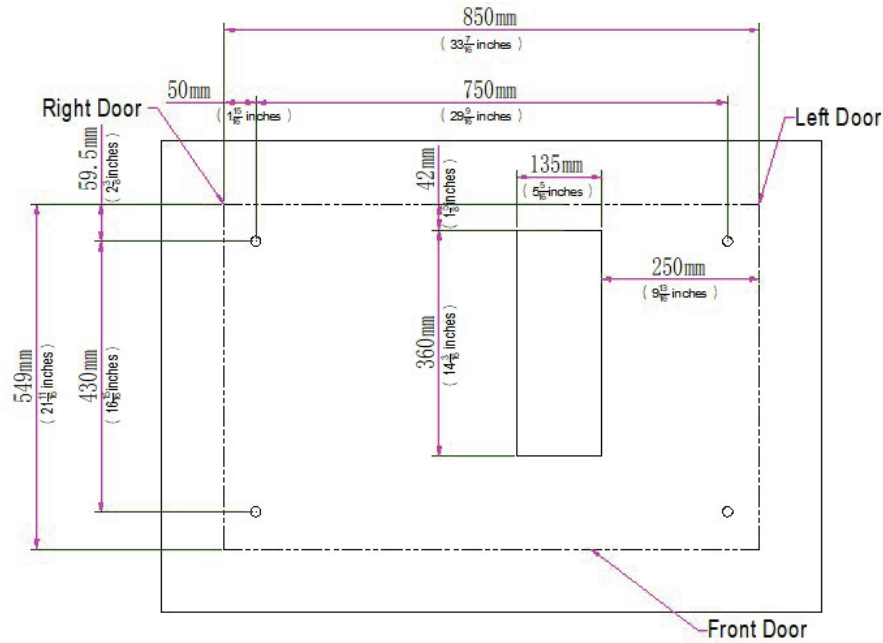

Figure 4.4.2-A
1. The hole size is shown in **Figure 4.4.2-A**.